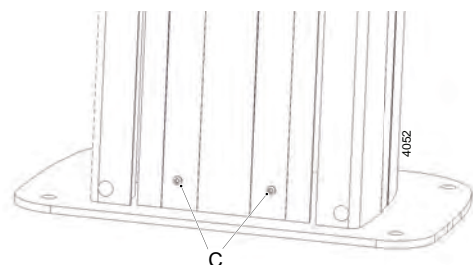

Fig. 4-169 Remove lower screws
14. Insert and tighten the 2 lower screws (C) holding the front aluminium plate, see Fig. 4-169 *Remove lower screws*